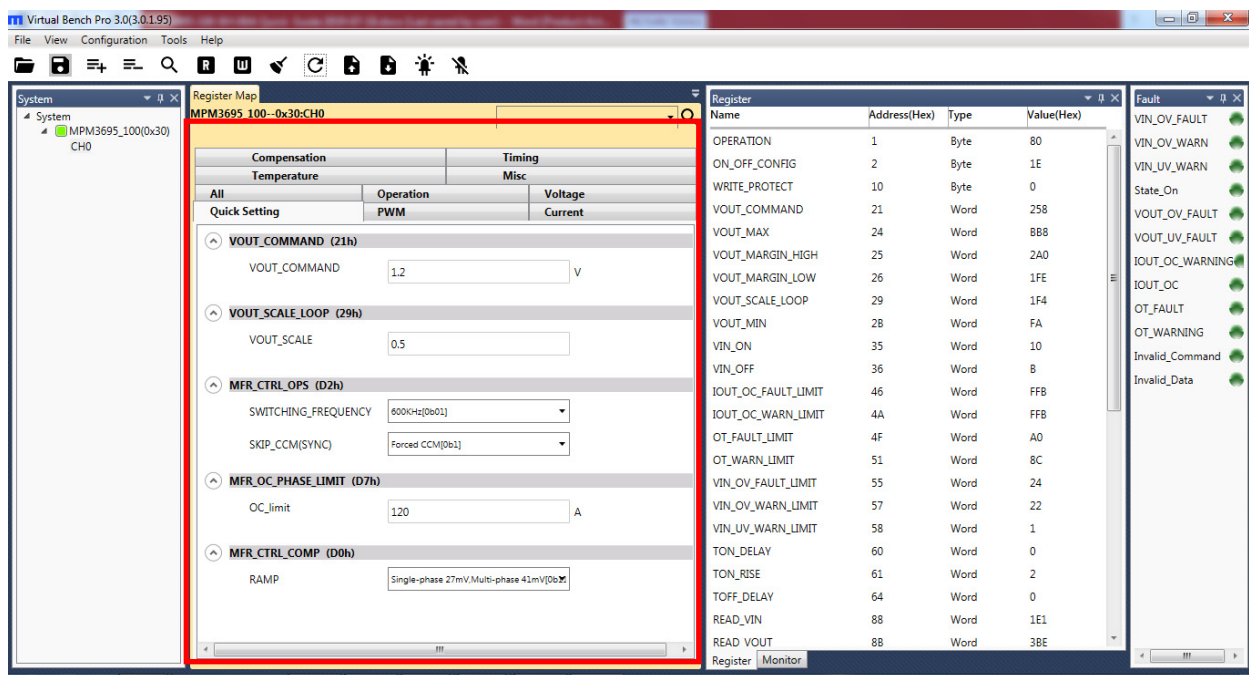

Figure 5: Reading the Register Values
- The values stored in the registers of the module are read automatically (see Figure 5).